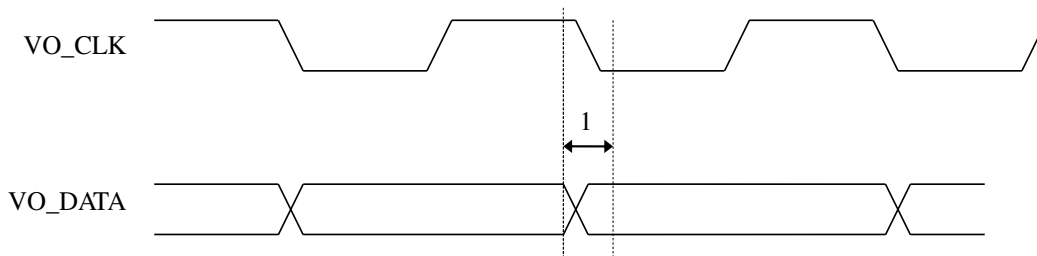

FIGURE 12. VO\_CLK AND VO\_DATA TIMING
2. The VO\_CLK in Figure 12 is configured as 180 degrees delay to the related VO\_DATA.